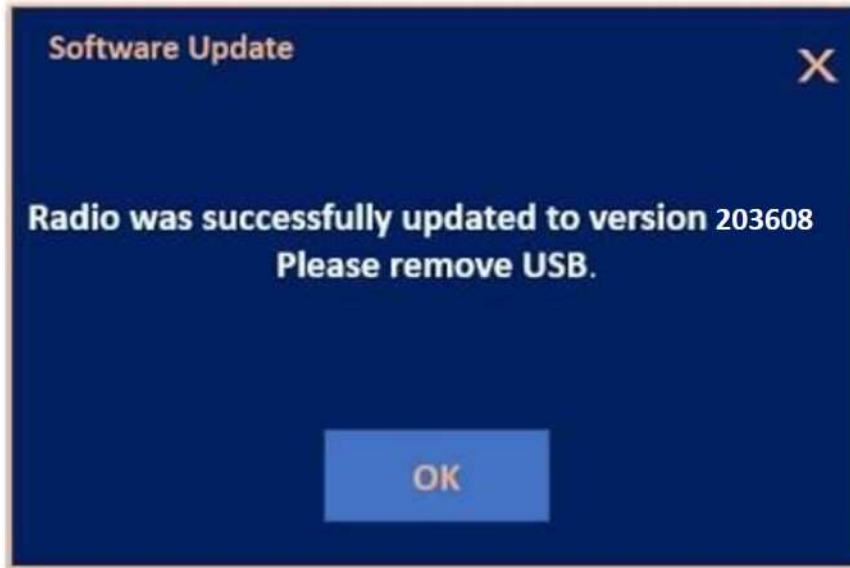

Fig. 9
19. Wait for the "Radio was successfully updated" screen (Fig. 9) .